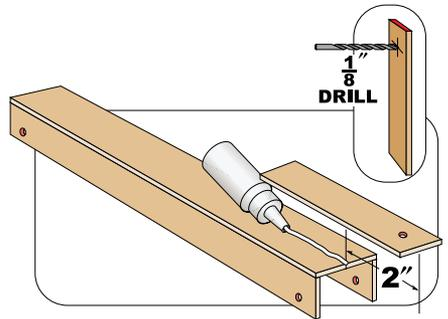

Figure 6
6. Glue the 1-1/2" x 5" piece of wood onto the end of the body (Figure 6). Be sure the piece hangs over the end at least 2" and that the hole in the piece hangs over the body.